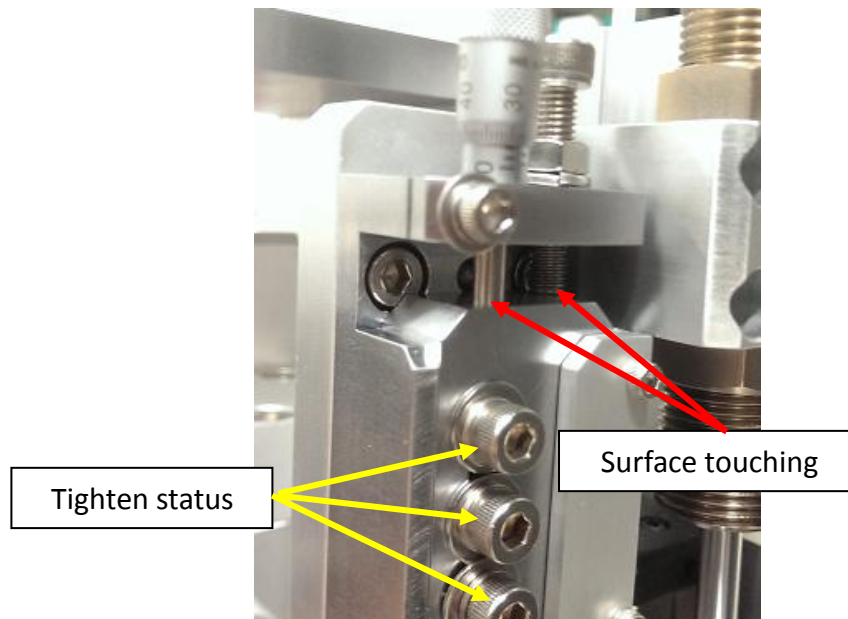

Figure 18
22. While tube cylinder locate at **Upper** position, hand tight Hard Stop Support Screw & Nut. Ensure the screw is firmly contact with the Hard Stop Block surface as Figure 18.